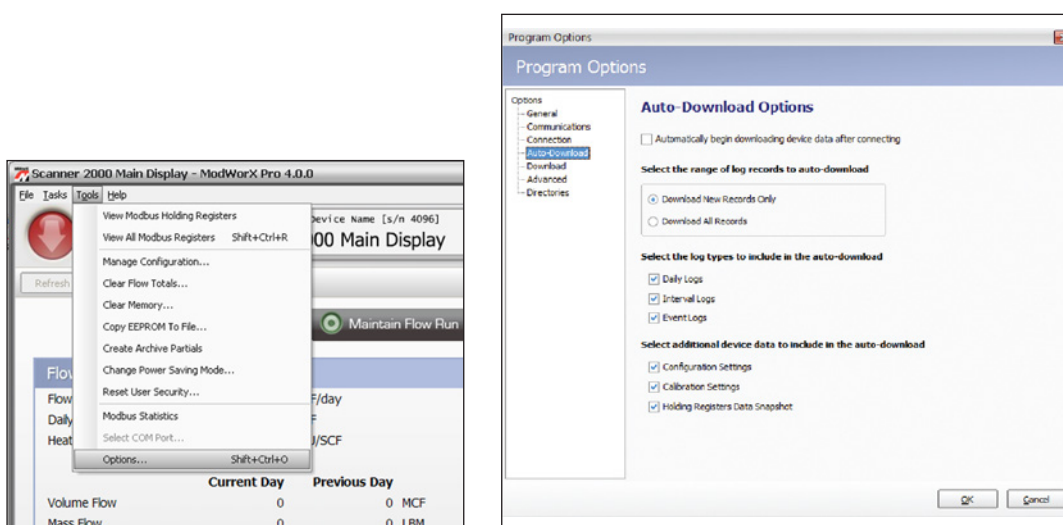

Figure A.21
1. Click **Tools>Options** in the task bar (Figure A.21).